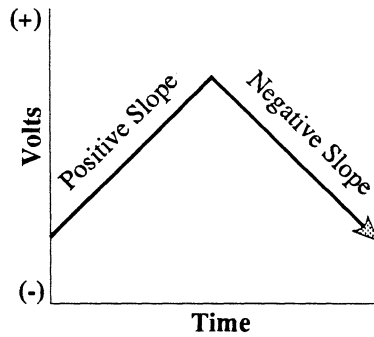

Figure 1 - The slope of the signal must match that as selected on the front panel.
2. The signal's **Slope** must match the front panel selection (Figure 1). See *page 13-6*.